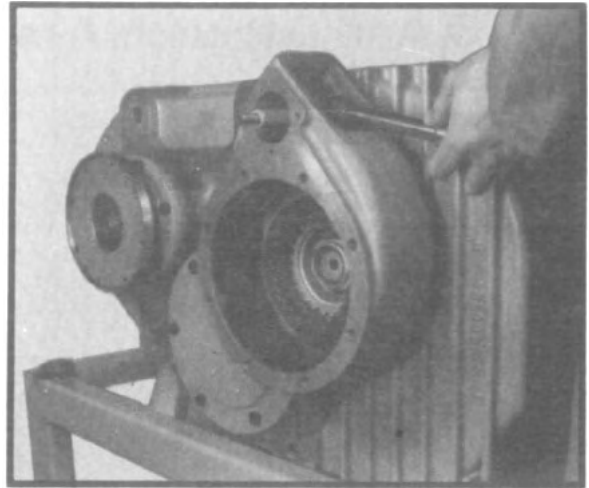

Fig. 177
4. Install two shift fork clamping screws and tighten to correct torque. Secure clamp screws with lockwire. (See fig. 177.) If clamp screw heads are not easily accessible as shown, the shift fork is installed backward.